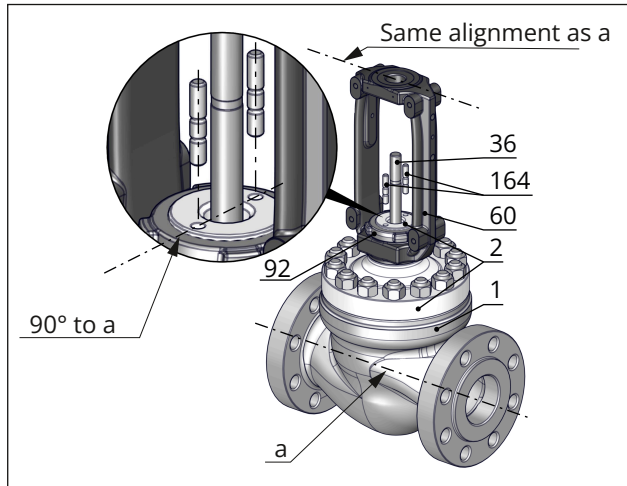

Fig. 33: Alignment of bonnet on the valve body and alignment of yoke on the bonnet
9. Place a new spiral wound gasket (17) on the valve body (1). Before inserting the gasket, clean the seating surface and check for damage.
10. Place a new spiral wound gasket (126) on the support element (63) or seat retainer (124). Before inserting the gasket, clean the seating surface and check for damage.
11. Place the valve bonnet (2/21) including yoke (60) from the top over the plug/piston stem (36) onto the body (1). Observe the alignment (see Fig. 33). The two boreholes on the top of the bonnet must be at a right angle to the pipeline axis.
12. Firmly press the plug/piston (5) into the seat (4), while fastening down the valve bonnet (2/21) with the body nuts (14). Tighten the body nuts (14) gradually in a crisscross pattern. Observe tightening torques.
13. Carefully slide the packing parts over the plug/piston stem (36) into the packing chamber using a suitable tool. Refer to the documentation of the spare packing for the correct sequence and alignment of the parts.
14. Screw in and hand-tighten threaded bushing (8).
15. Tighten threaded bushing (8) gradually applying the specified tightening torque.